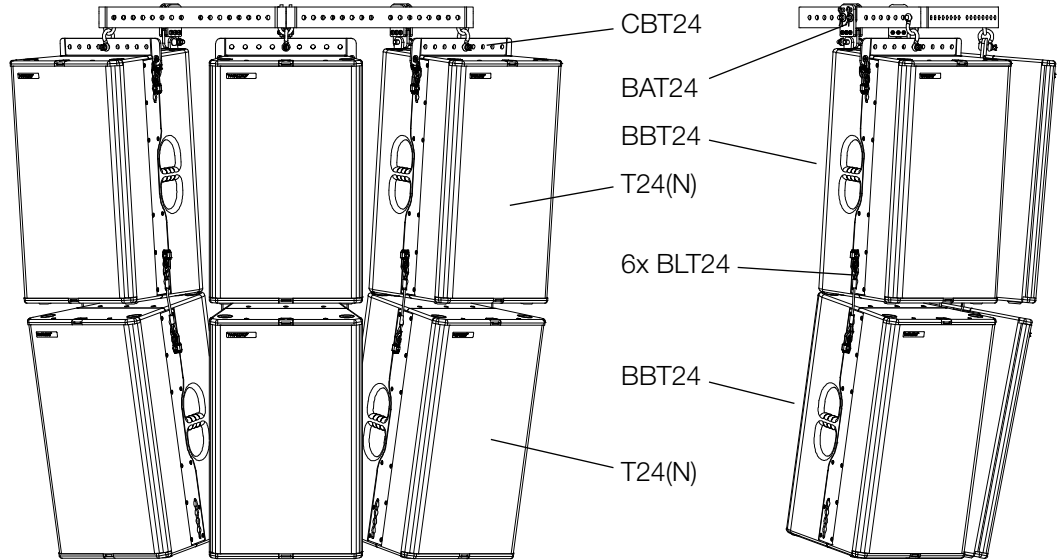

Figure 4.10 - Standard variant
The standard variant has established itself in which six T24(N) loudspeakers are used with three CBT24 cradle bar for flying, six BBT24 brackets, three BAT24 adapter and six BLT24 Boxlink connector cables. (See figure 4.10)